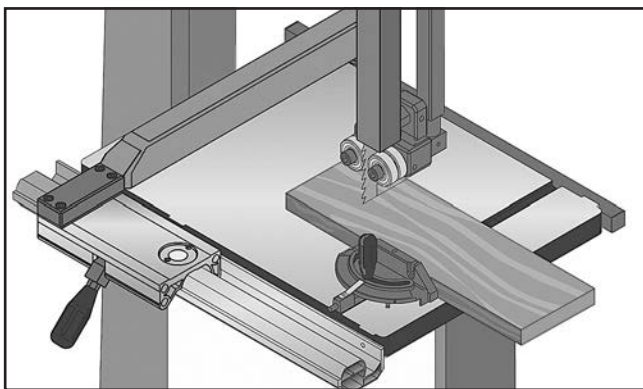

Figure 53. Example of a crosscutting operation with the miter gauge.
5. After all safety precautions have been met, turn bandsaw **ON** and wait for it to come to full speed. Slowly feed workpiece into blade until blade is all the way through workpiece. **Figure 53** shows an example of a crosscutting operation.